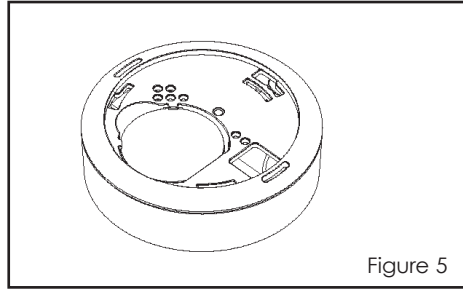

Figure 5
2. Remove the battery. (Figure 5)